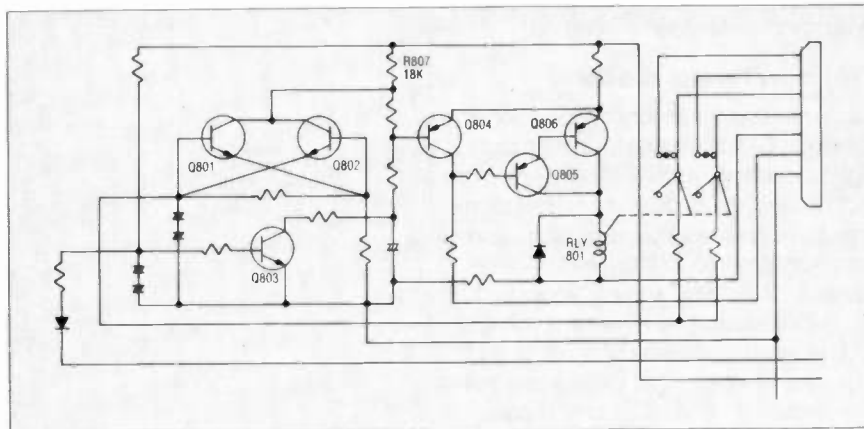

Fig. 7 An overvoltage shutdown circuit, employed to protect the speakers.
2) Over voltage shutdown. (See Fig. 7.) If an excessive dc voltage is produced at the speaker terminal, it enters at the base of Q801. When this voltage is positive, Q801 becomes conductive, and when it is negative, Q802 becomes conductive. As a result, a current runs in R807, decreasing the base voltage of Q804, causing it to become conductive.